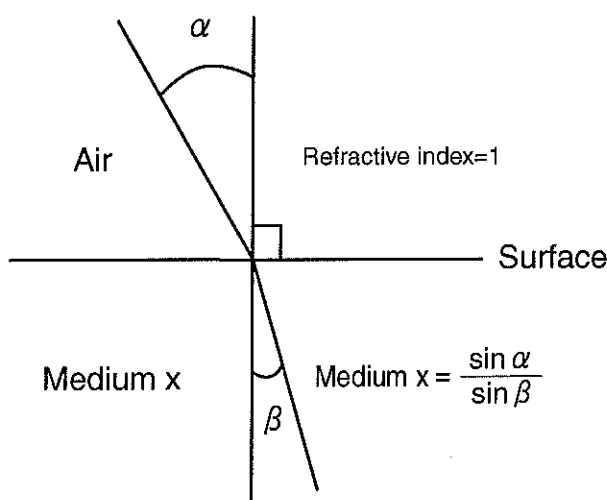

Fig. 23-1
(2) What is refractive index? (See Fig. 23-1.)